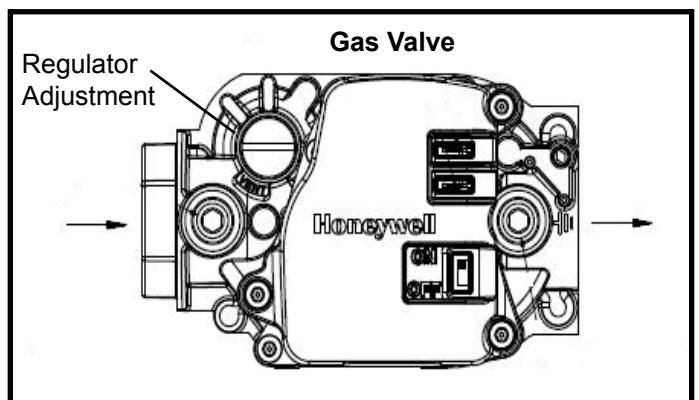

Figure 7
3. Slide the gas valve switch to the "ON" position (see Figure 7).
2. Slide the gas valve switch to the "OFF" position (see Figure 7).
The manifold pressure can be measured by shutting off the gas, removing the pipe plug in the downstream side of the gas valve, and connecting a water manometer or gauge. **Under no circumstances should the final manifold pressure vary more than 0.3" w.c. from the above specified pressures.** To adjust the regulator, turn the adjusting screw on the regulator clockwise to increase pressure and input or counterclockwise to decrease pressure and input. See Figure 7 to assist in locating the regulator on the gas valve.
1. Slide the gas valve switch to the "OFF" position (see Figure 7).